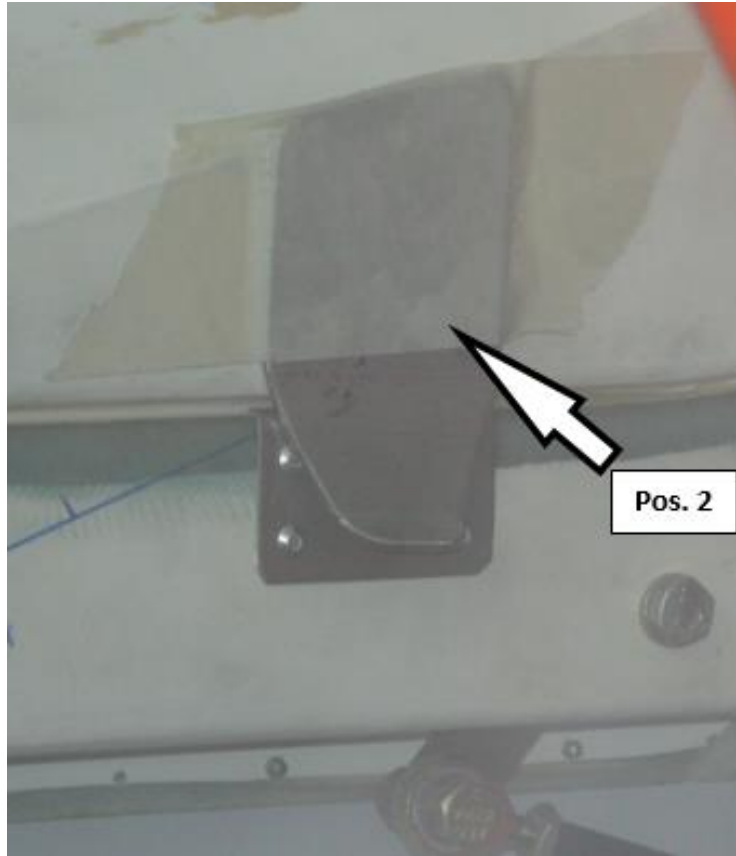

Fig. 4 - Positioning of the guiding metal plate on the movable frame (view of the left side of the cockpit)
- 4) With the canopy closed and locked, from the inside of the cabin, set the guiding metal plate on the left side of the movable frame and on the protective metal plate attached to the fixed frame (see Fig. 4, Pos. 2). Fix the guiding metal plate in the set position by masking tape. Drill six holes \varnothing 3.2 mm into the movable frame according to the holes in the guiding metal plate and deburr the drilled holes (see Fig. 4).